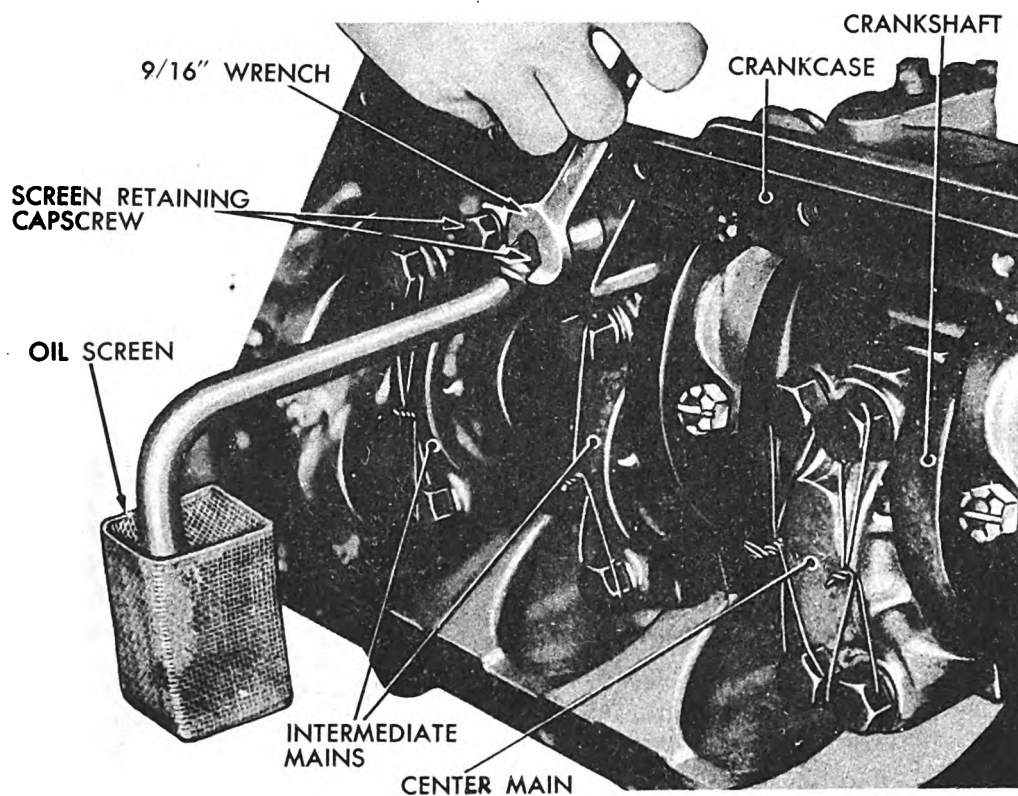

Fig. 166. Installing Oil Screen
(4) Insert the cotter pins of large enough diameter to make a snug fit in the hole. The cotter pins should extend from  $\frac{3}{8}$  inch to  $\frac{1}{2}$  inch to allow enough length for bending. If longer, cut off the excess length.
d. *Installing Oil Screen.* Install the oil screen to the crankcase. (See Figure 166.) Be sure the gasket between the screen bracket and crankcase is in place. Tighten the two capscrews.